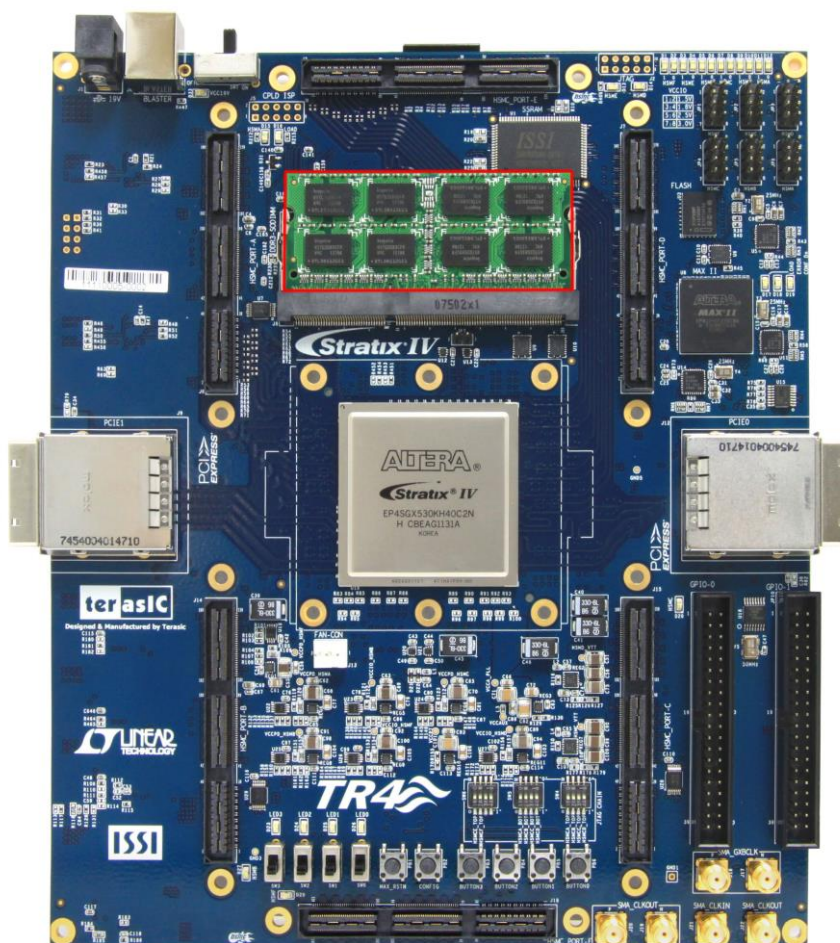

Figure 5-10 Insert DDR3-SDRAM SODIMM for the DDR3 4G Demonstration
- Make sure DDR3-SDRAM SODIMM (4 GB) is installed on your TR4 board, as shown in Figure 5-10.